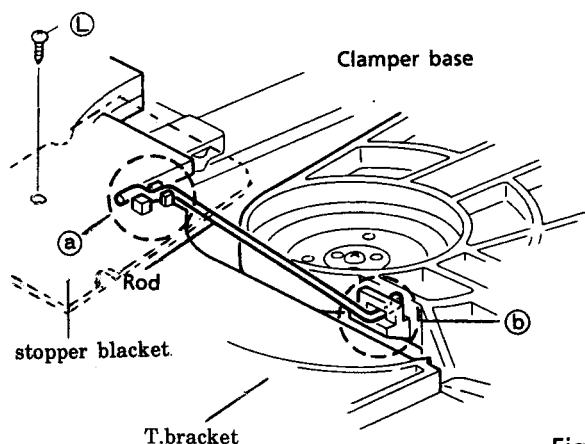

Fig. 20
2. Remove the screw ① holding the stopper blacket.(See Fig.20) ---- (U.S.A and CANADA only)
3. Remove the rod from both ends' hooks which are secured on T.Bracket ③ and clamber base⑤. [See Fig. 20)